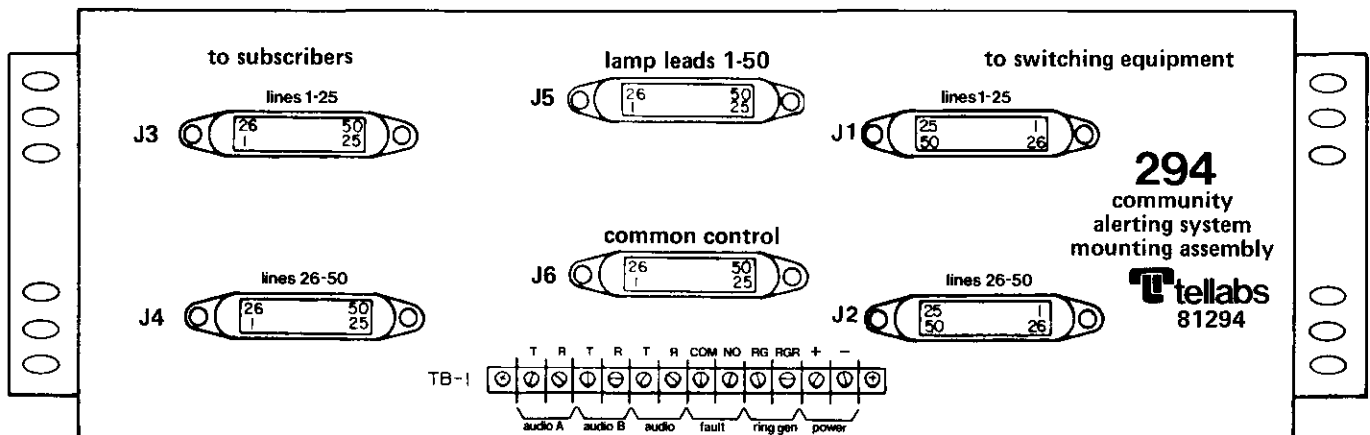

figure 2. Connectorized backplate of 294 Mounting Assembly
2.02 Larger Systems require the same items for each 50-station increment. In addition, a larger cabinet and possibly a power supply with greater capacity are needed. All 294 System modules are Type 10 modules. All modules and other System equipment operate on nominal -48Vdc power supply. Figure 2 shows a front view and figure 3 shows the connectorized backplate of a 50-station 294 System. Each of the 294-System components is described individually in the following paragraphs.